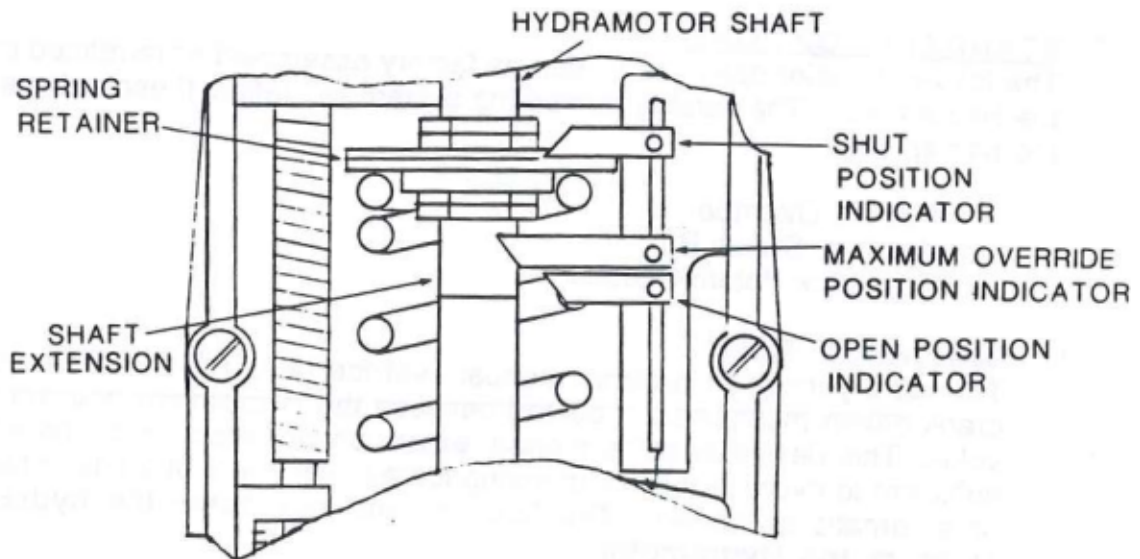

Figure 7-2. Position Indicators, Push-Type.
- 2). **Push-Type** Hydramotors: Set the M.O. position indicator to 1/8" below the OPEN position indicator (see Figure 7-2).